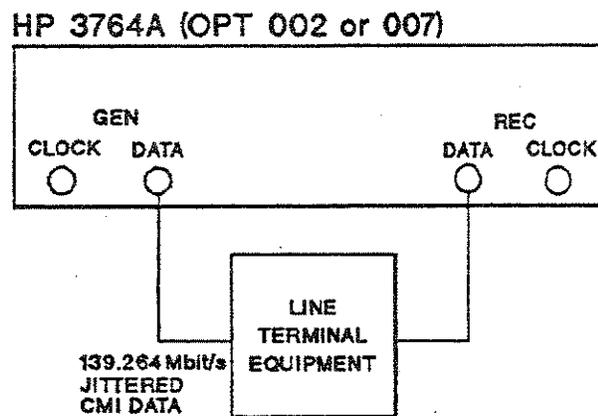

Figure 2-8. Jitter Transfer Measurement
3. Connect up the equipment as shown in Figure 2-8.